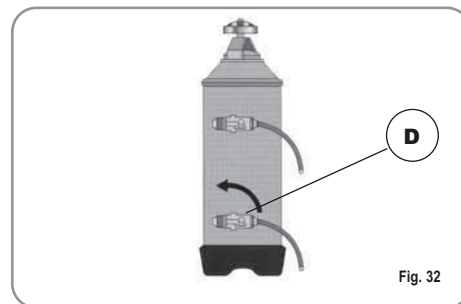

Fig. 32
3) Reposition lever D towards the left (Fig. 32).